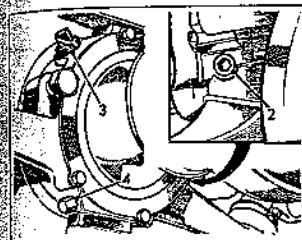

Fig. 8.16 Steering swivel pin housing - drain, level and filler plugs (Sec 13)
- 2 To check the level, remove the recessed level plug (Fig. 8.16) or the square-headed plug at the front of the swivel (photo), as applicable. The oil should be level with the bottom of the hole. Do not overfill or the oil seals may be damaged and start to leak.